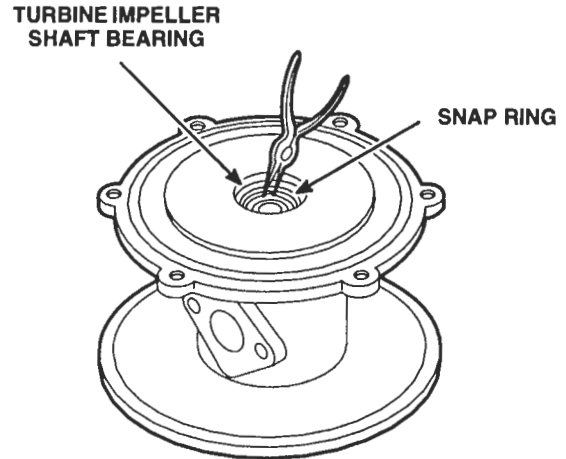

Figure 20. Center Housing and Thrust Plate Bolt Removal
7. Place the center housing, compressor housing end up, on the bench (Figure 20.)